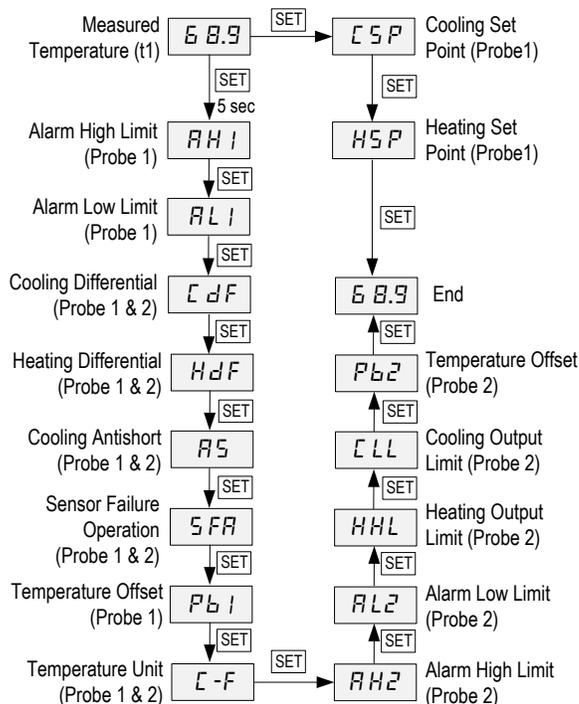

Figure 2. Flow chart of setting up parameters.
In normal display mode, press SET key to access the Cooling Set Point (CSP) and Heating Set Point (HSP). In normal display mode, press and hold SET key for 5 seconds to access the control parameters. Please see Figure 2 for the flow chart of how to access each parameter.
- 1) Follow the flow chart in Figure 2 to bring the parameter to the display window.